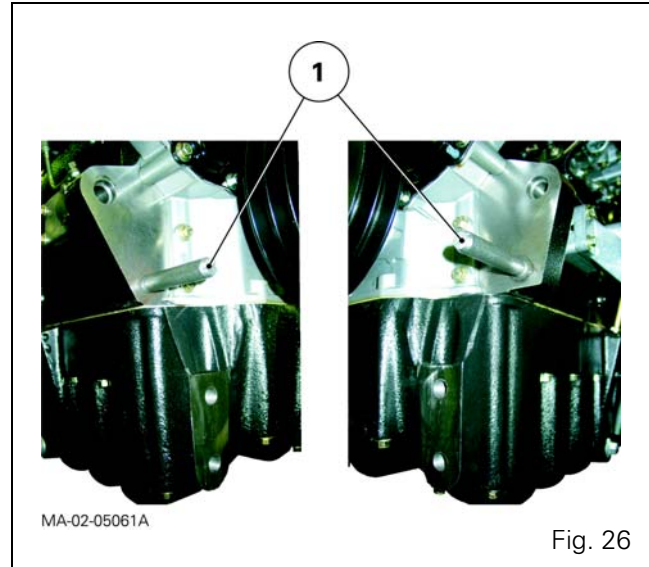

Fig. 26
51. Screw two guide studs (1) to the front mating face of the engine (Fig. 26).